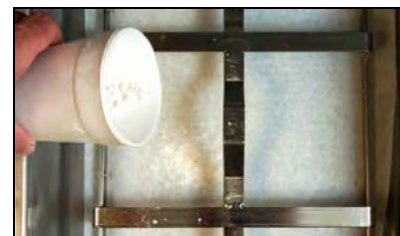

Figure 4
5. When the hold-down ring is in position, if using filter paper, sprinkle one packet of filter powder evenly over the paper (see Figure 4).